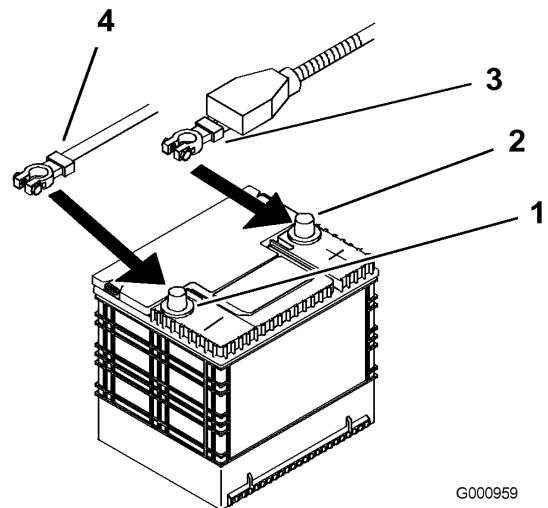

Figure 42
4. First disconnect the negative battery cable from the negative (-) battery terminal (Figure 42).
5. Slide the red terminal boot off the positive (red) battery terminal. Then remove the positive (red) battery cable (Figure 42).
1. Position battery in the tray with the terminal posts opposite from the hydraulic tank (Figure 42).
4. Secure the cables with 2 bolts (1/4 x 3/4 inch), 2 washers (1/4 inch), and 2 locknuts (1/4 inch) (Figure 42).